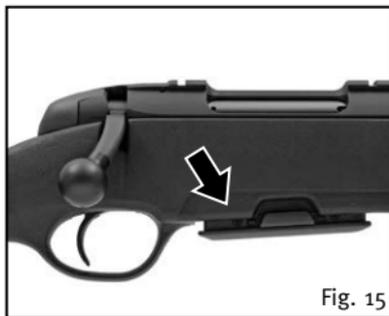

Fig. 15
1. First, make certain that the magazine has been removed or locked in second position (Fig. 15) and the weapon is unloaded!